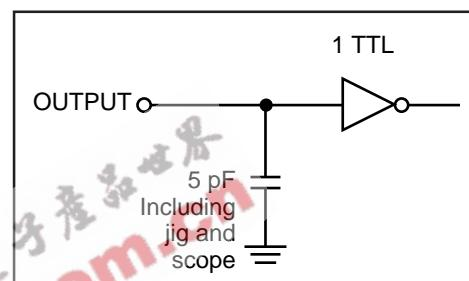

Figure 2
- Tested with the load in Figure 2. Transition is measured ±500 mV from steady-state voltage. Not 100% tested.
- Tested with the load in Figure 2. Transition is measured ± 500 mV from steady-state voltage. Not 100% tested.